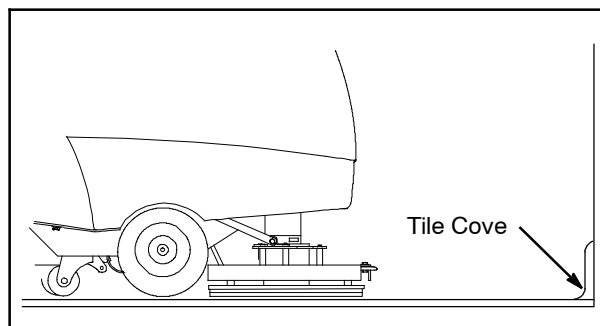

FIG. 20
- Use caution when working near the tile cove (Figure 20) and floor mounted fixtures such as pedestal sinks and other breakable items. Keep the metal scrub head edge away to avoid possible damage to the cove and other breakable items.